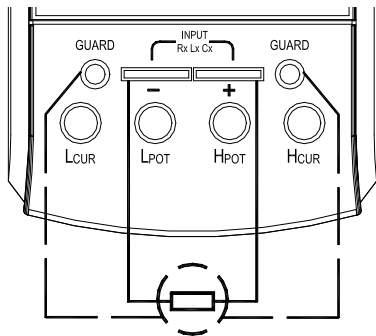

Figure 12
- a. Insert the measured resistance into the input terminal directly (shown in figure 12);